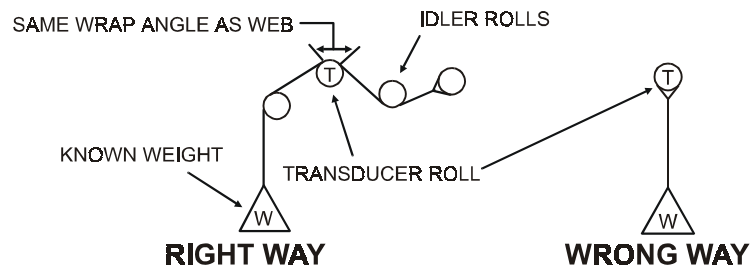

Figure 9 - WEB PATH FOR METER CALIBRATION
4. Fasten one end of the rope in the machine and thread the other end around the transducer roll in exactly the same path as the web will take. Be sure it does not pass around any driven rolls, drag bars, or anything else that can affect tension. Refer to Figure 9 below.